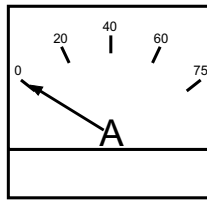

**Figure 50. Voltage Meter (Volts)**
13. The generator's voltage meter (Figure 50) displays the 120 VAC in **VOLTS**. If the voltage is not within the specified frequency tolerance, use the voltage adjustment control knob (Figure 51) to increase or decrease the desired voltage.